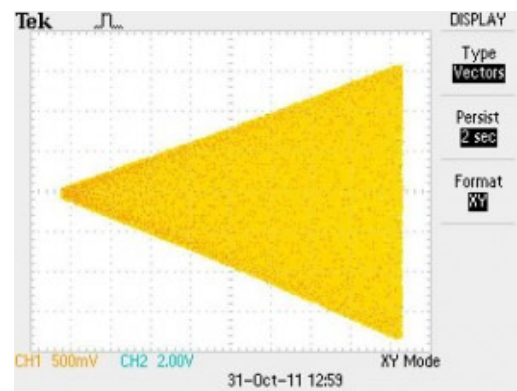

Fig. 1 Trapezoid test pattern
It is this baseband that is connected to the oscilloscope's horizontal (X) input. This display yields a trapezoid pattern. This pattern compares the transceiver's output to the amplifiers output. If the amplifier is linear without any distortion and not overdriven, the trapezoid pattern will be a linear undistorted triangular waveform see Fig1. To rely on such a measurement, the demodulator and signal samplers must be linear and free of distortion.